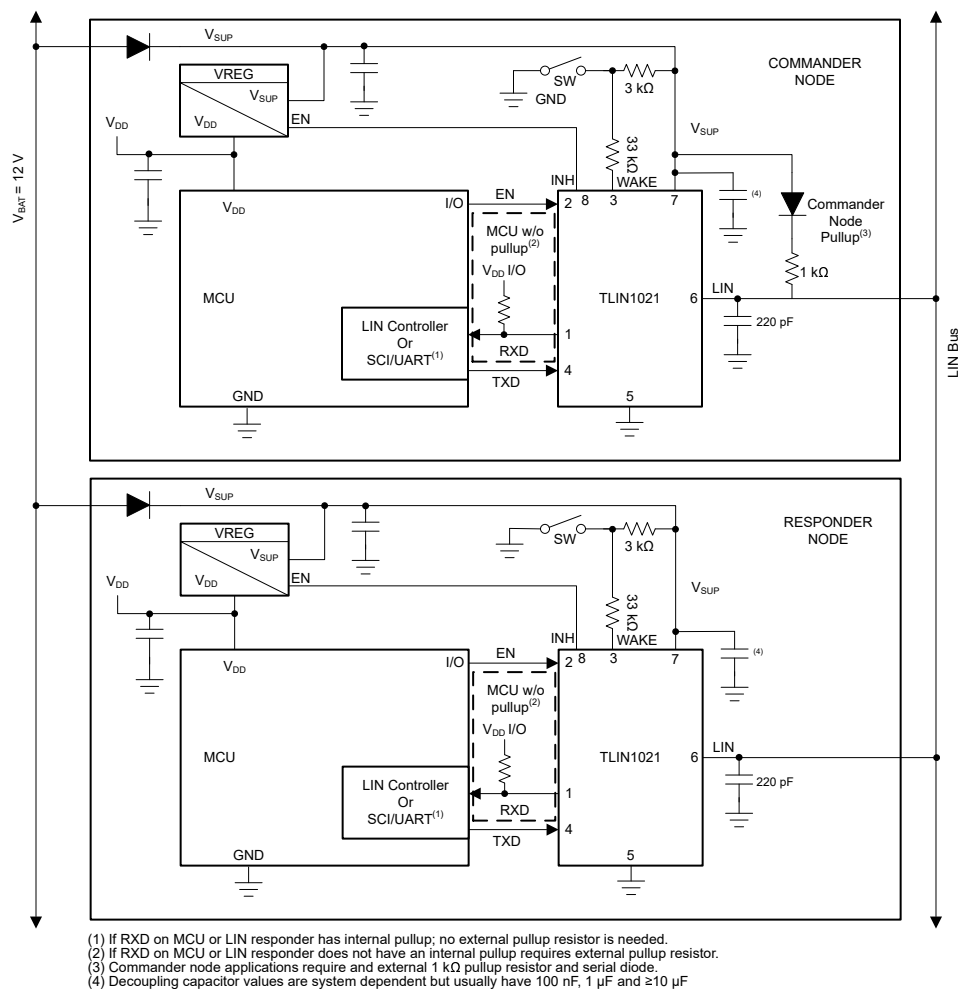

图 10-1. Typical LIN Bus
The device integrates a 45 k Ω pull-up resistor and series diode for responder applications. For commander applications, an external 1 k Ω pull-up resistor with series blocking diode can be used. Figure 10-1 shows the device being used in both commander and responder applications.
- Pin 2 (EN):** EN is an input pin that is used to place the device in low-power sleep mode. If this feature is not used the pin should be connected to the supply voltage for the controller through a series resistor using a
- **Pin 6 (LIN):** The LIN pin connects to the TLIN1021-Q1 to the LIN bus. For responder applications a 220 pF capacitor to ground is implemented. For commander applications an additional series resistor and blocking diode should be placed between the LIN pin and the V_{SUP} pin, see Figure 10-1.